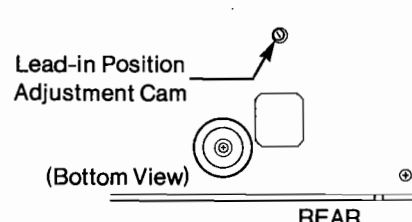

Fig.5
2. Turn the adjustment cam so that lead-in attains the proper position (see Fig.5). (Rotating the cam clockwise moves the lead-in in toward the center, while rotating it counter-clockwise moves it out towards the edge.)